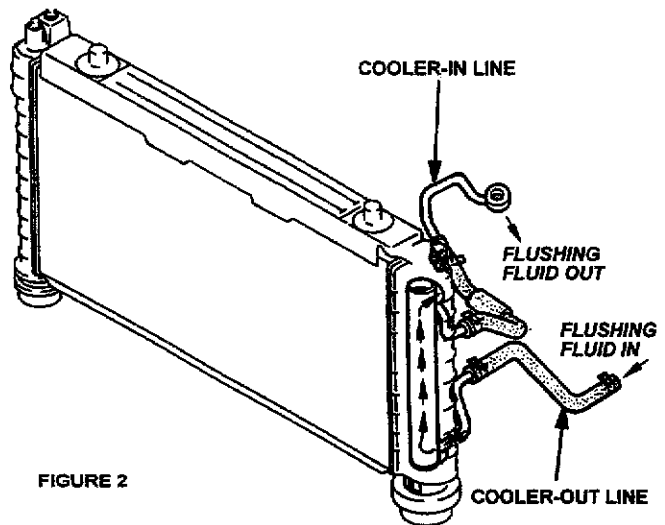

FIGURE 2
1. Using the Power Flushing Equipment manufacturer's instructions, connect equipment so the flushing fluid flows in the opposite direction of normal fluid flow. Refer to page 4 to determine normal fluid flow. See typical example of back flushing flow in *Figure 2*.